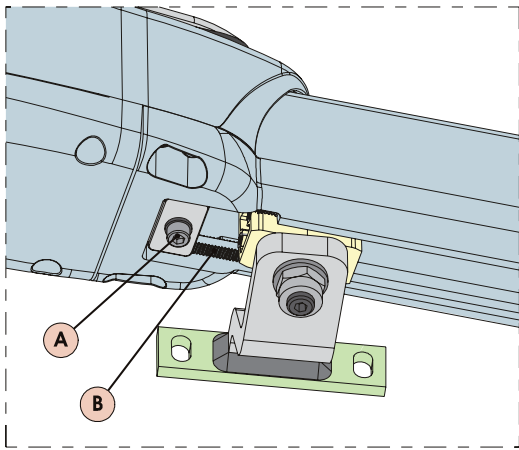

Fig. 17
- 3) Loosen the fastening screw, Fig.17 ref.A. Do not remove the screw.
IMPORTANT: The mechanical stop works coupled to a toothed sector, Fig. 17 ref. B. If there are any troubles during the movement, make sure that the coupling is free. DO NOT FORCE.